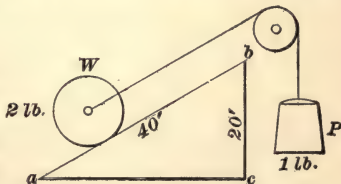
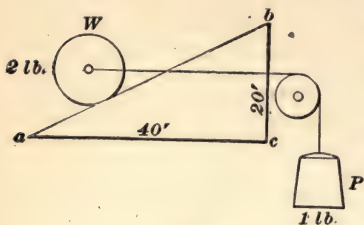
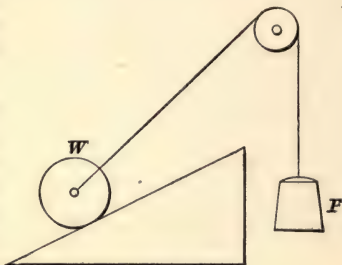

FIG. 34.
FIG. 35.
FIG. 36.
in Fig. 34. (2) Where the force acts parallel to the base, as in Fig. 35. (3) Where the force acts at an angle to the plane or to the base, as in Fig. 36.
83. In Fig. 35, the force is supposed to act parallel to the base for any position of W ; therefore, while W is moving from the level ac to b , or through the height cb of the inclined plane, P will move through a distance equal to the length of the base ac . When the force acts parallel to the base, we have
For Fig. 36, no rule can be given. The ratio of the power varies as the position of W varies; it may be determined by the principle of the resolution of forces. As W